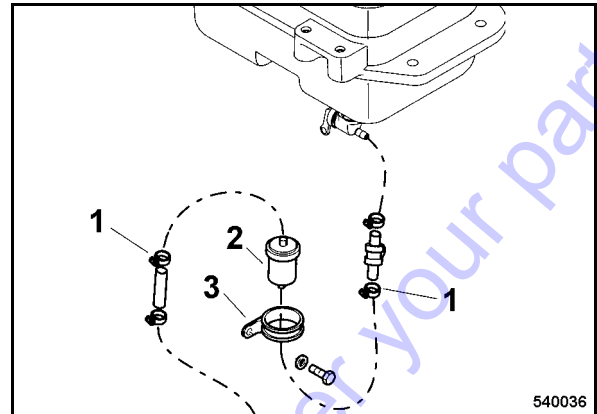

Fig. 49
- Loosen hose clamp (1) (Fig. 49) on the fuel filter and pull off the fuel hoses.
- Loosen the clamping screws (3) and take off the fuel filter (2).